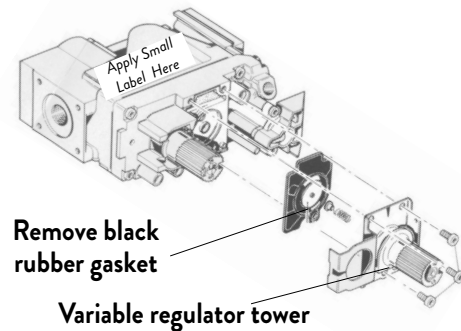

Figure 7.7.
9. Replace the variable regulator. Using a Torx T-20 screwdriver, remove the three specialty screws from the regulator tower on the front of the valve. Note: To help identify which screws to remove, refer to the new regulator in the kit. See fig. 7.7.